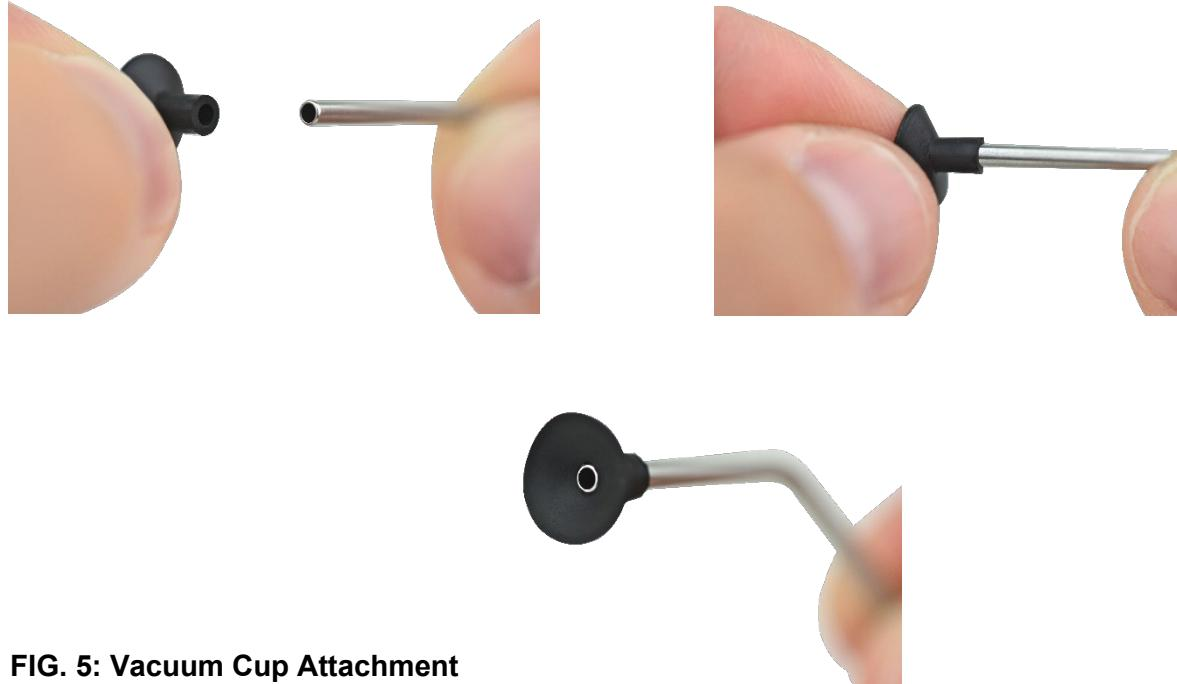

FIG. 5: Vacuum Cup Attachment
3.	<p>Gently push the stem of the vacuum cup onto the pickup tip. See FIG. 5.</p> <p>Ensure that the pickup tip does not protrude into the “cup” area of the vacuum cup, as this may result in damaging the component that is to be picked up.</p> <p>A successful setup will be confirmed by a tight fit that does not deform the surface of the vacuum cup.</p>